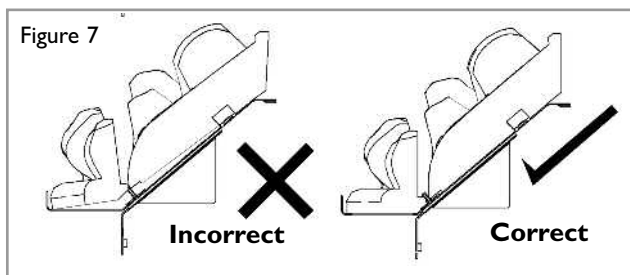

Figure 8
1. Position the combustion matrix onto the burner tray as shown in figure 8. The front edge of the matrix should sit snugly behind the back edge of the burner rails as shown in figure 7. Do not fit the matrix on top of the burner rails.